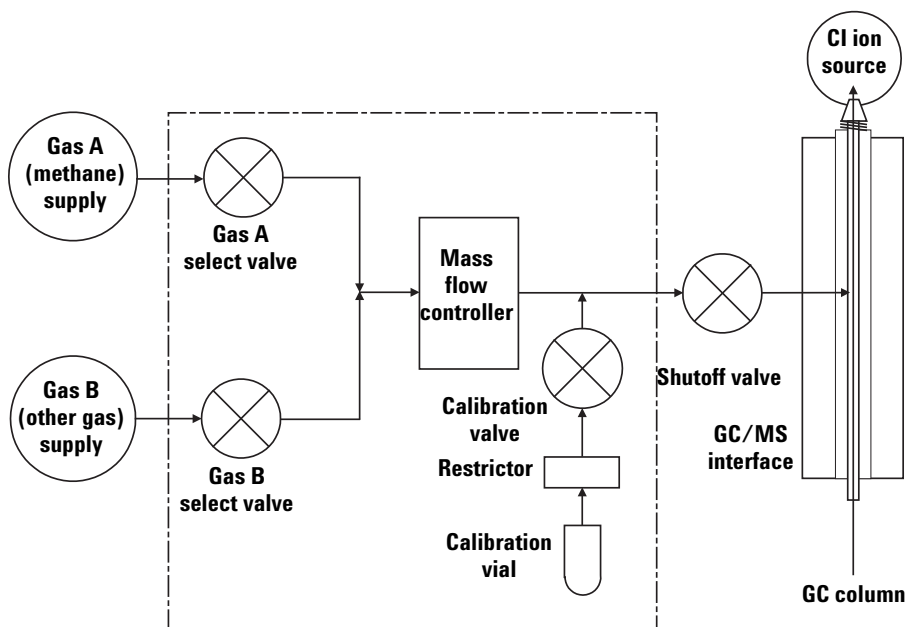

Figure 3 Schematic of CI flow control module
- 1 See Figure 3 and Table 4.
- Close valves starting at the gas select valves (**Gas A**, then **Gas B**), then close the shutoff valve. See Figure 3 and Table 4.